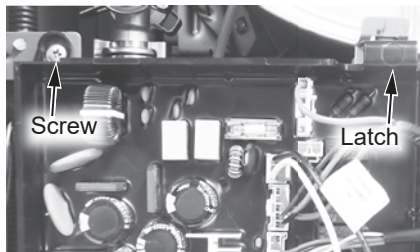

Figure 216 - Control board location
**15** Press the latch at the top of the circuit board panel and pull the assembly forward from the top. It is hinged at the bottom and can be lowered. The circuit board assembly will hold itself in place. See Figure 216.